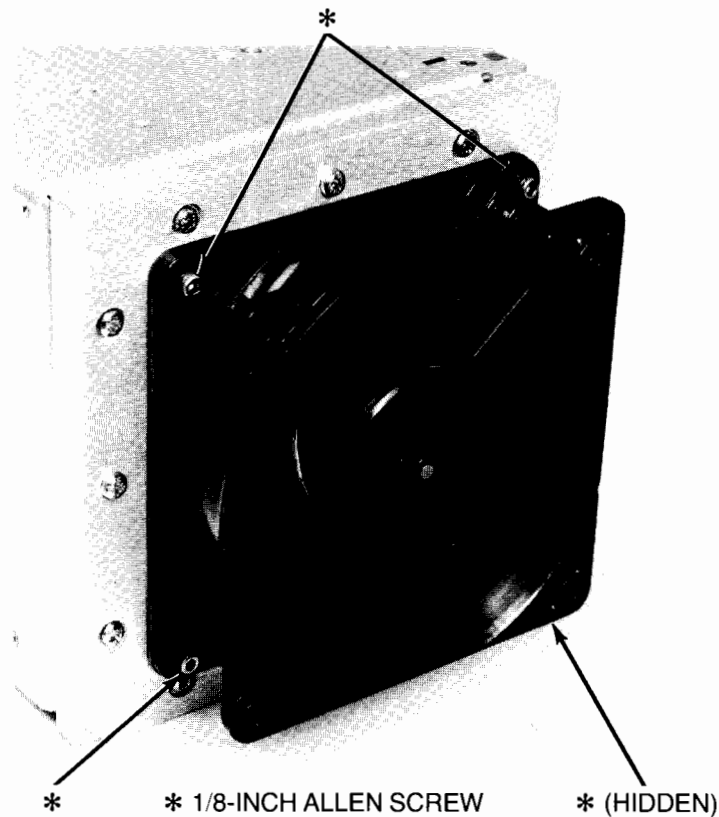

Figure 4-68. Removing Processor Stack Fan
3. Remove four 1/8-inch Allen screws that attach fan to stack (Figure 4-68), and remove fan.